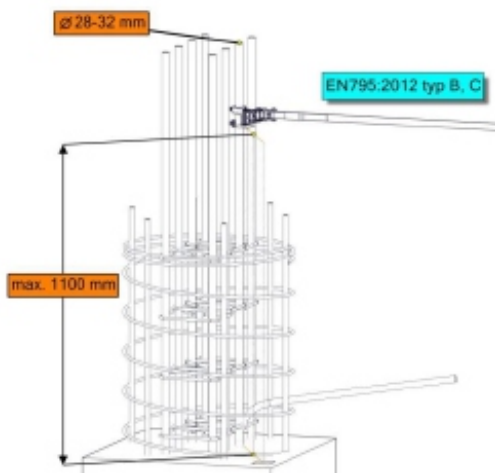

Figure 8. Installation of horizontal lifelines in connection with anchor point AT187
– height up to 1100mm above concrete structure for ribbed bars with core diameter 28–32mm. Figure 8
If the anchor point is going to be used with horizontal anchor system compliant with EN 795:2012 type B, C, and Figure 8 it is necessary to meet the following conditions: